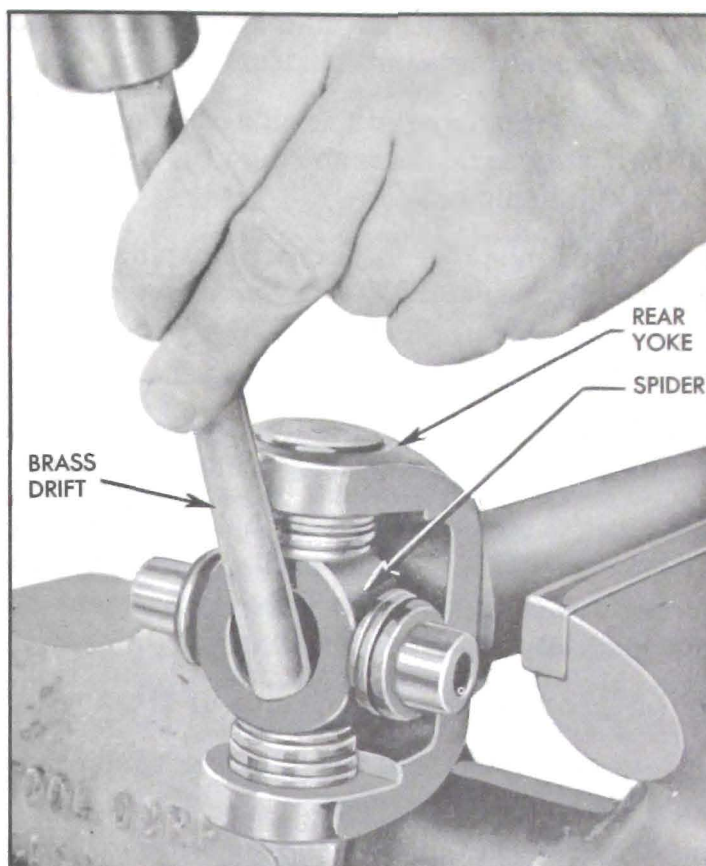

Figure 6-13—Removing Bearing from Rear Yoke
8. Clamp or support rear yoke in vise. Drive bearing out until snap ring groove is visible using a drift applied to center part of spider. See figure 6-13.